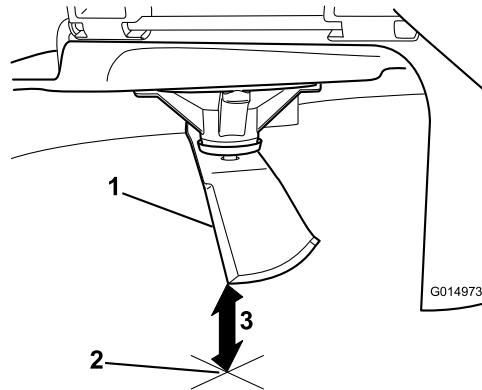

Figure 56
- Measure from the tip of the blade to the flat surface (Figure 56).